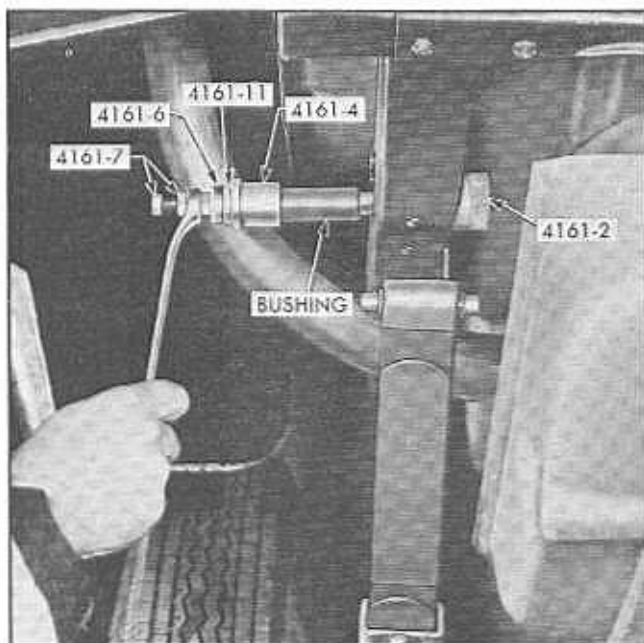

Fig. 4-57 Bushing Replacer Tool J-4161-A
c. Center bushing on one side and adapter 4161-2 on opposite side of hole in spring hanger; turn hex nut of 4161-7 (Fig. 4-57) until bushing is forced into place so bushing pin projects equally on each side of frame hanger.